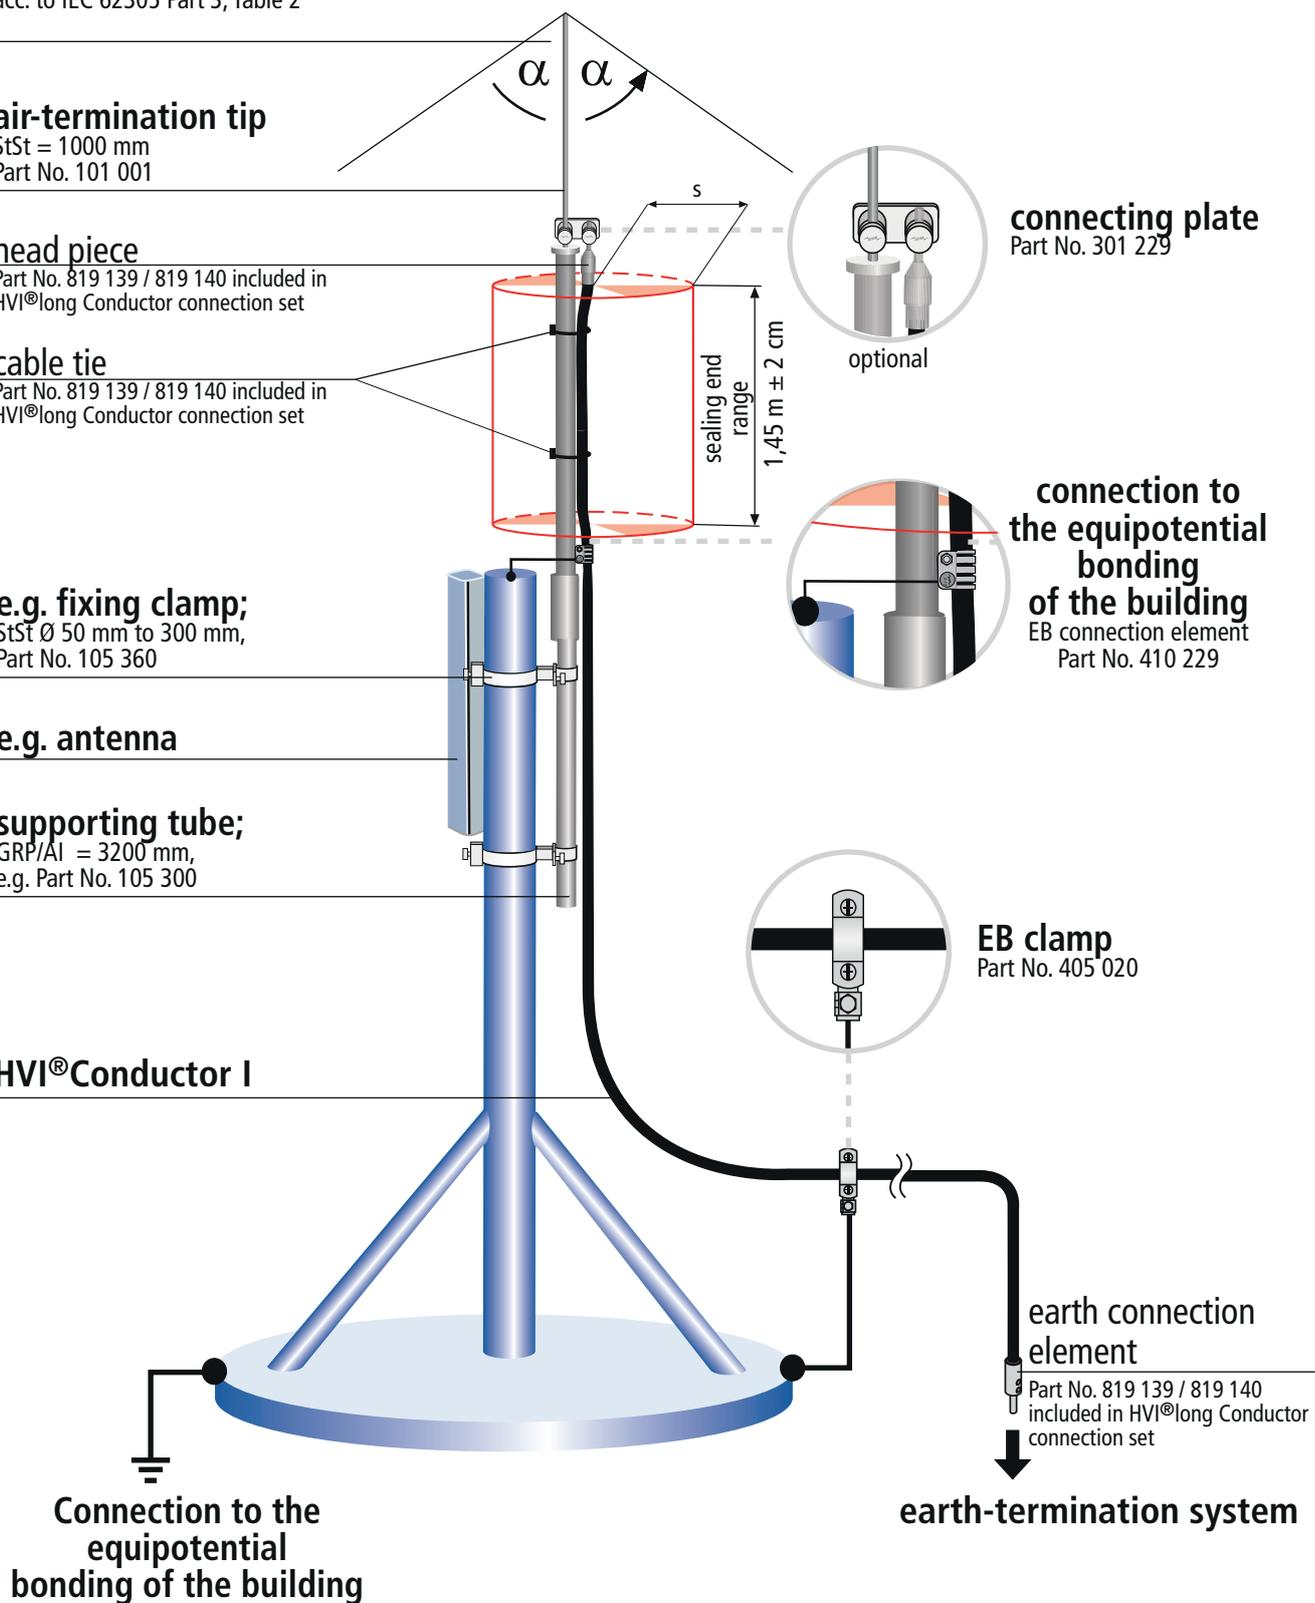
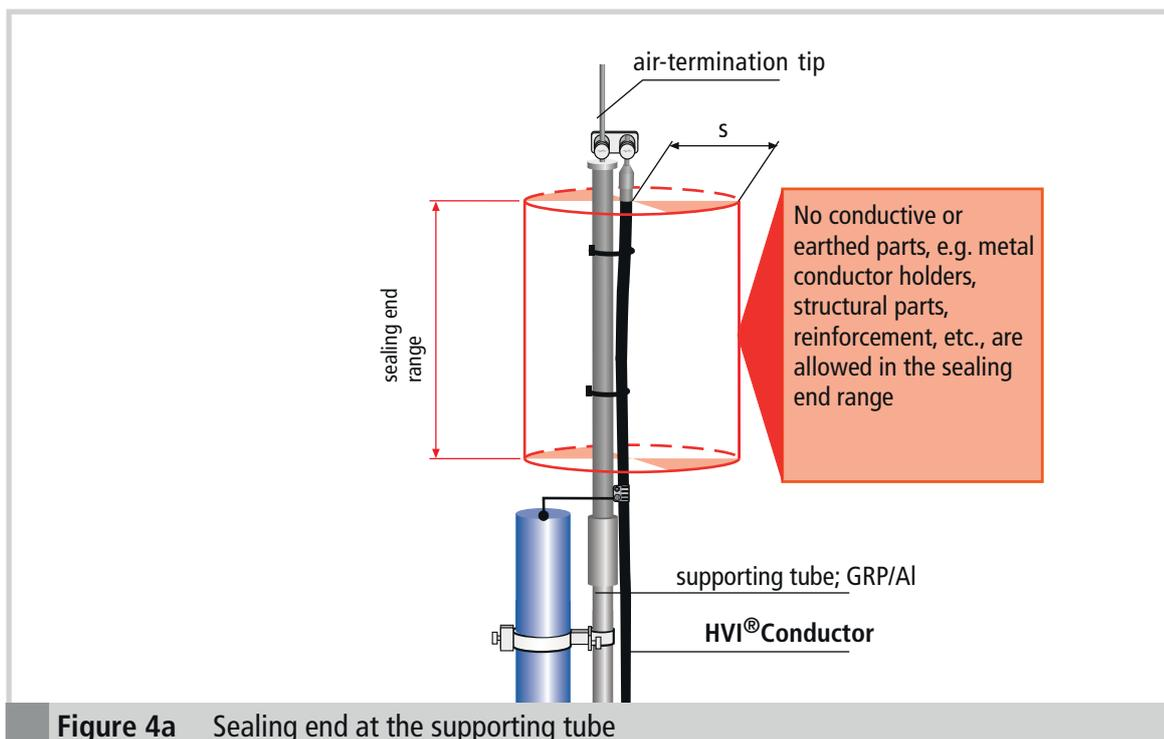
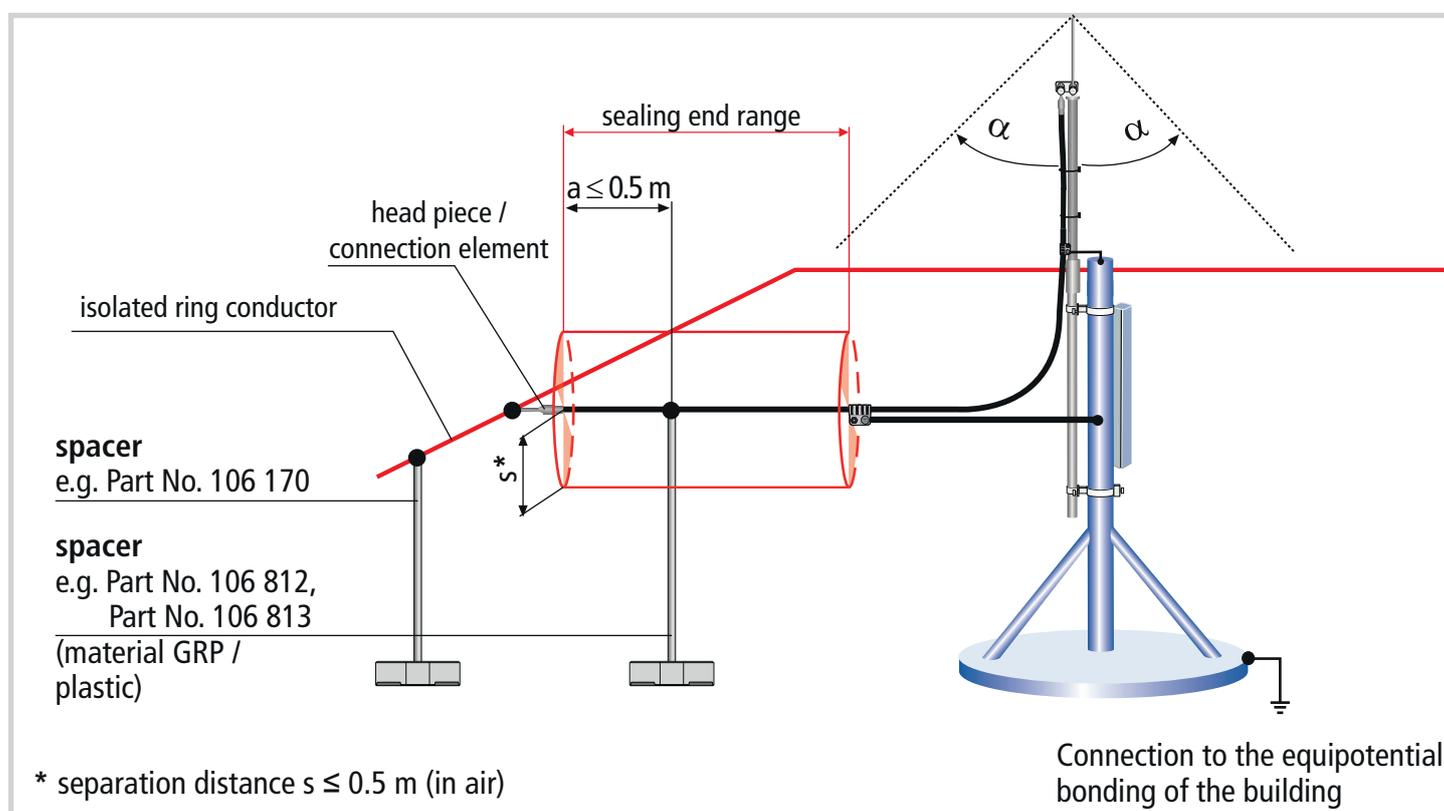
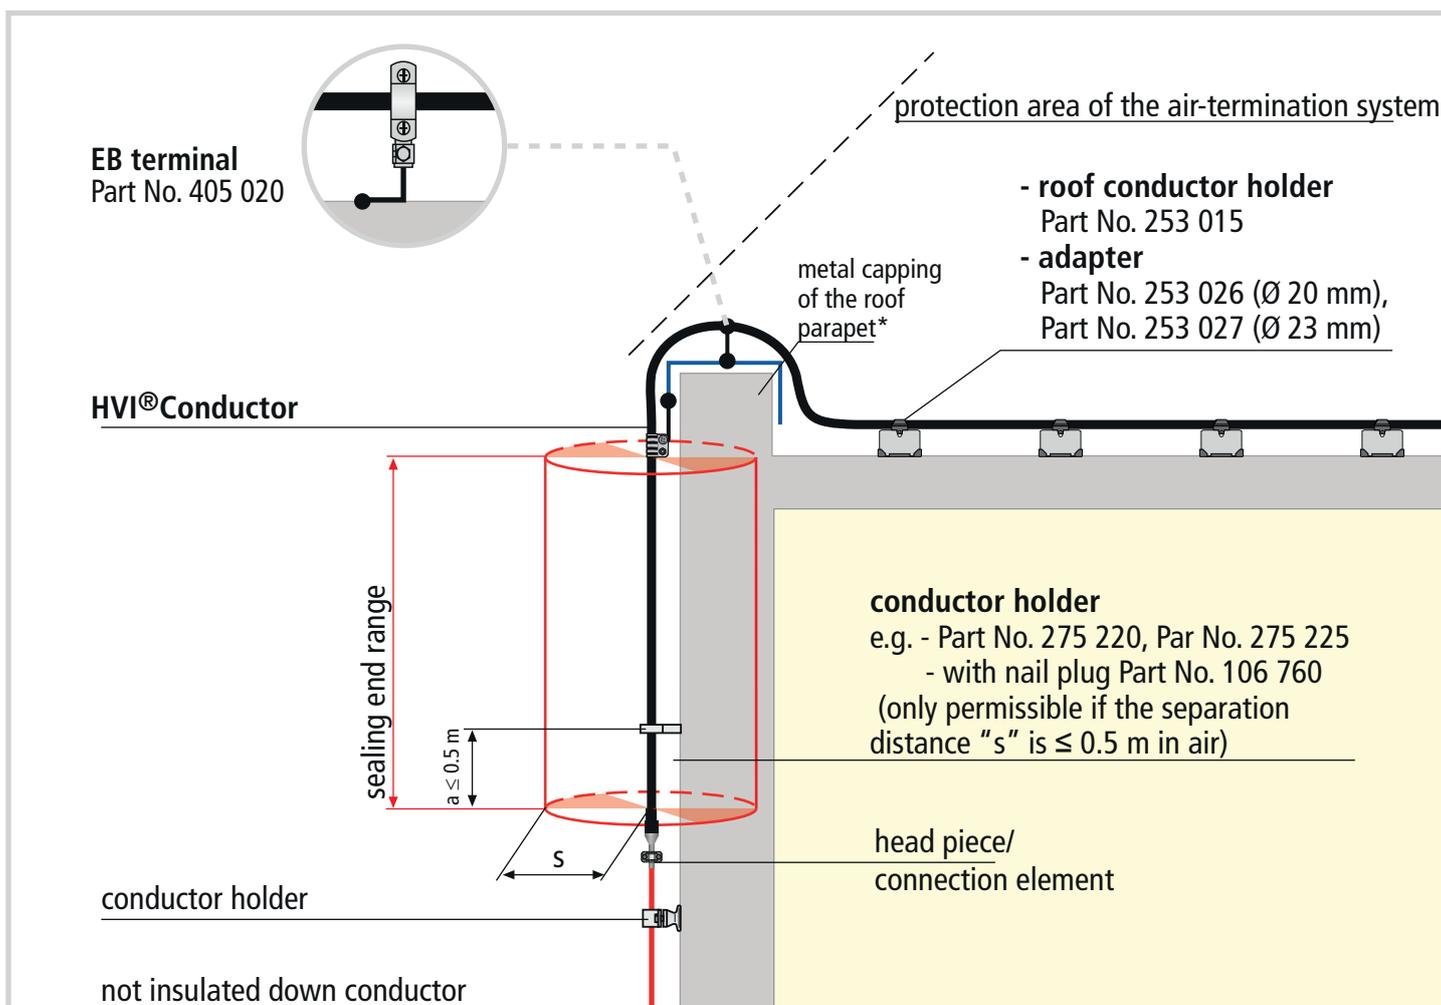

Figure 3 Isolated air-termination system with HVI®Conductor I installed at a mobile radio antenna - Application example
Figure 4a Sealing end at the supporting tube
Figure 6 Connection of the **HVI® Conductor II / III** to an "isolated ring conductor"
Figure 7 Transition **HVI® Conductor** to bare down conductor;
No conductive or earthed parts, e.g. metal conductor holders, structural parts, reinforcement, etc., may be installed in the sealing end range (section between head piece and EB connection element) (see Figure 4a and 4b). Figures 4a and 4b illustrate the separation distance "s" in the form of a cylinder.
Position the cable tie lock at the rear side of the supporting tube and fit it tightly at the tube (see Figure 3, page 5 and Figure 14, page 18).
- Fixing of conductor holders is only permissible in range a up to ≤ 0.5 m, measured from the head piece (see Figure 6 and Figure 7, page 10).
Figure 7 shows possible connections of the head piece to a protruding air-termination rod (see also Figure 4a, page 6 and Figure 14, page 18).
Only the head piece may be connected to the air-termination system (Figure 4a, page 6 and Figure 14, page 18), the "isolated ring conductor" (Figure 6, page 9) or the down-conductor system (Figure 7).
The entire **HVI®Conductor** has to be installed in the protection area of the air-termination system of the external lightning protection system (see Figure 7, page 10) and must not be connected to lightning voltage conducting parts of the air-termination system, the down-conductor system or structural parts (see Figure 3, page 5 and Figure 14, page 18).
In case of crossovers or parallel conductor routing towards earthed metal installations such as metal capping of the roof parapet, cable racks or pipelines it is advisable to connect the black coating of the **HVI®Conductor** to the equipotential bonding (see Figure 3, page 5 and Figure 7, page 10). This is an additional equipotential bonding measure.
For several parts of the installation to be protected it is advisable not to lead the **HVI®Conductor** individually from each air-termination system to the earth-termination system. The **HVI®Conductors** coming from the air-termination system can be connected to e.g. an "isolated ring conductor". From this "isolated ring conductor", several down conductors can be led to the earth-termination system. This reduces the partitioning coefficient k_c from the height of the "isolated ring conductor". Thus, the separation distance "s" is also reduced. **HVI®Conductors II/III or HVI®long Conductor** are ideally suited for this purpose (see Figure 6, page 9).